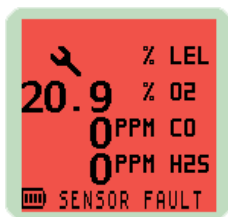

Fig. 4-8 Sensor Fault
1) If a “SENSOR FAULT” warning and a spanner symbol appears adjacent to a gas type, as illustrated in Fig. 4-8, then the sensor requires replacement or an electrical fault exists. Return instrument to an approved Service / Repair facility.